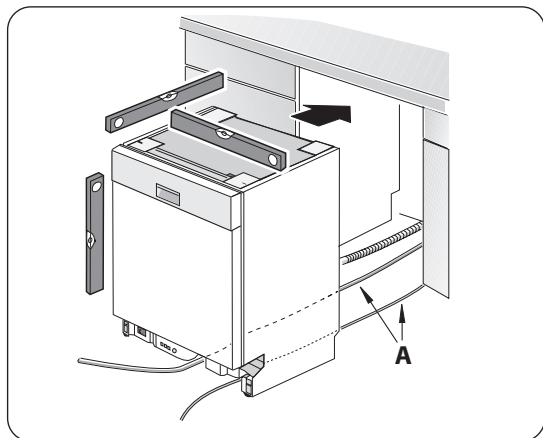
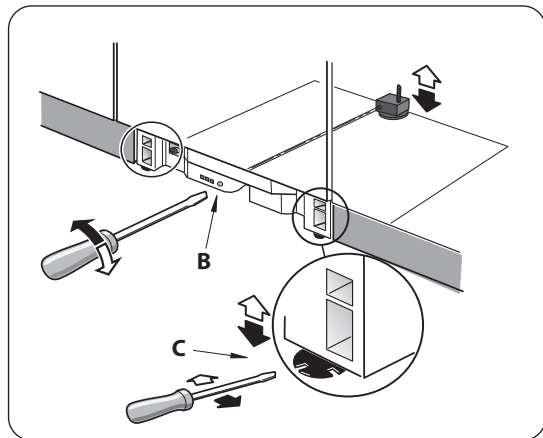

Figure 17
Figure 18
2. Position the dishwasher close enough to the enclosure so that you can run the dishwasher drain hose to the under sink drain connection. Make certain that the hot water supply line and the electrical supply cable are in their channels under the dishwasher base, as shown in Figure 17, letter A.
4. Perform a level check as shown in Figure 17. Adjust the rear leveler by turning the center screw at the front of the dishwasher, as shown in Figure 18, letter B. Turning the screw clockwise raises the rear of the dishwasher. Adjust the front levelers by turning them with a screwdriver, as shown in Figure 18, letter C. Turning the levelers to the right raises the dishwasher. If additional height is needed, shims may be added under the leveler feet.